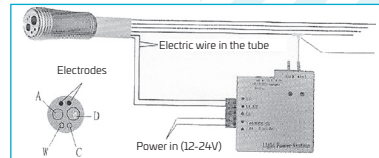

Fig. 3
- Connect the electricity; step on the foot controller; the indicator light is on; fibre optic illuminated hand-piece works. See figure 3 for more detail.